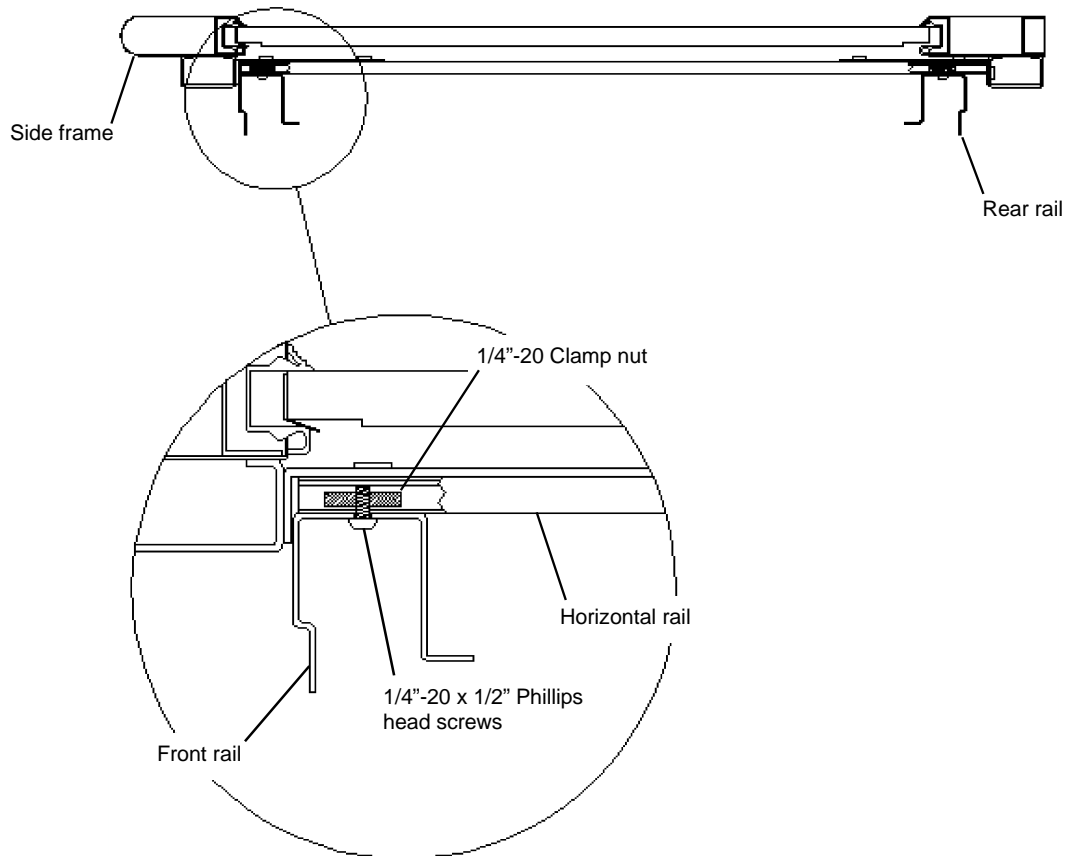

Figure 4
5. Install the **Front Rails** by positioning them , one at a time, against the Horizontal Rails and all the way forward. See **Figure 4**.
Align the holes in the Rail, which are on 1"(25mm) centers, with the 1/4"-20 Clamp Nuts in the Horizontal Slide. Fasten the Vertical Rail to each Horizontal Rail using the 1/4"-20 x 1/2" Phillips head screws provided. See **Figure 4**.